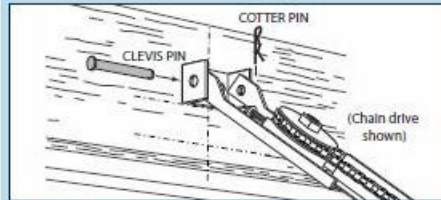

FIG. 2-5 Rail mounting to header bracket.
- Attach rail to header bracket using clevis pin and cotter pin (Fig. 2-5).